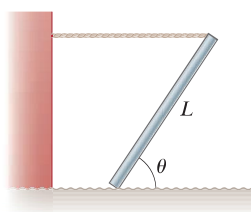

Figure P12.16
16. A uniform beam of length L and mass m shown in Figure P12.16 is inclined at an angle θ to the horizontal. Its upper end is connected to a wall by a rope, and its lower end rests on a rough, horizontal surface. The coefficient of static friction between the beam and surface is μ_s . Assume the angle θ is such that the static friction force is at its *maximum* value. (a) Draw a force diagram for the beam. (b) Using the condition of rotational equilibrium, find an expression for the tension T in the rope in terms of m , g , and θ . (c) Using the condition of translational equilibrium, find a second expression for T in terms of μ_s , m , and g . (d) Using the results from parts (a) through (c), obtain an expression for μ_s involving only the angle θ . (e) What happens if the ladder is lifted upward and its base is placed back on the ground slightly to the left of its position in Figure P12.16? Explain.